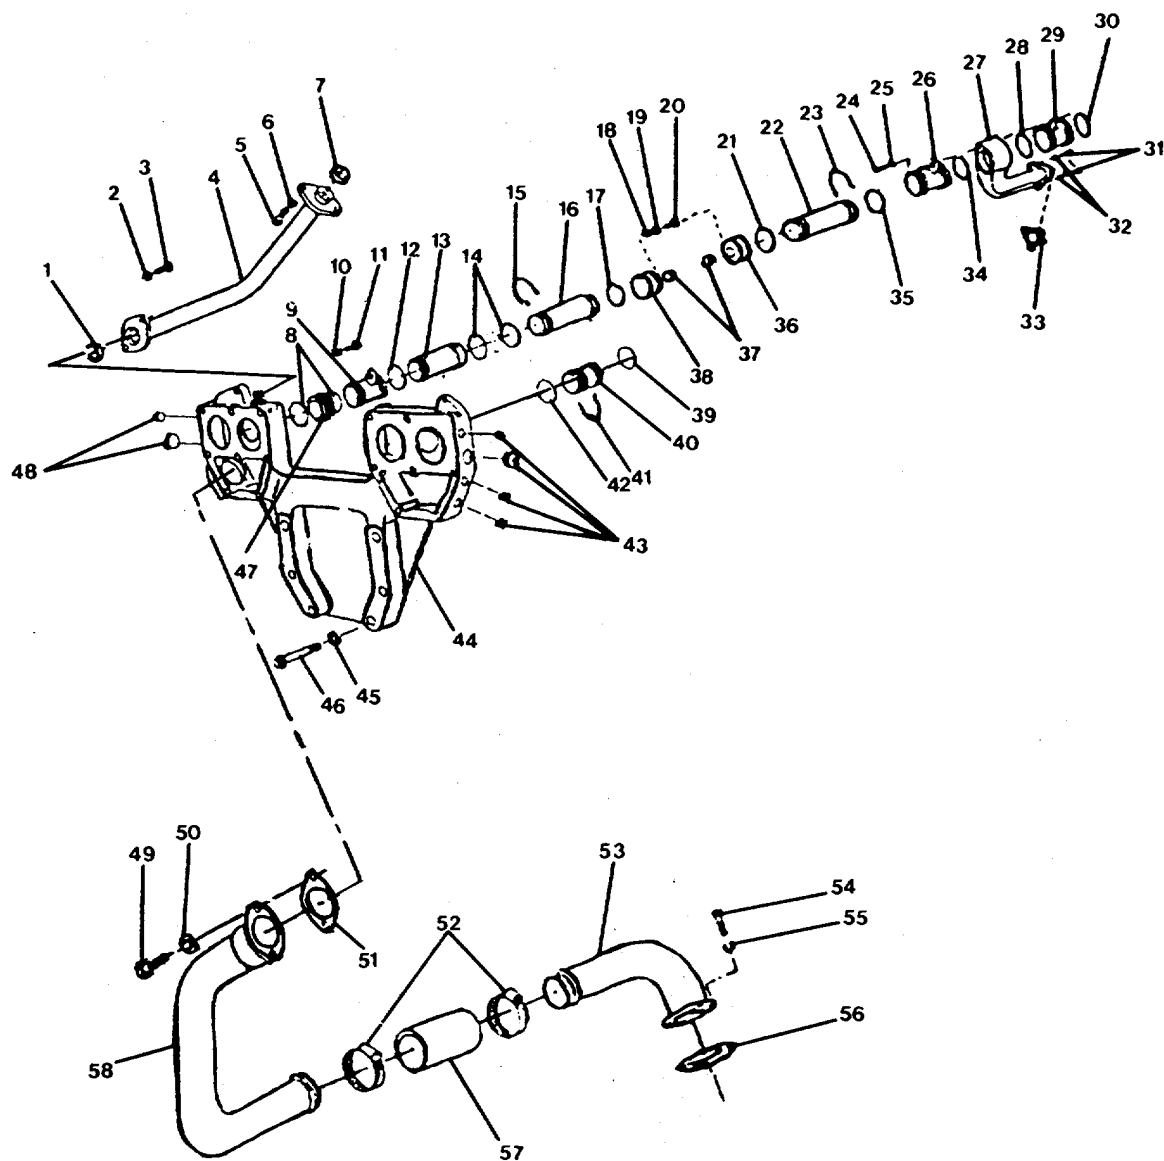
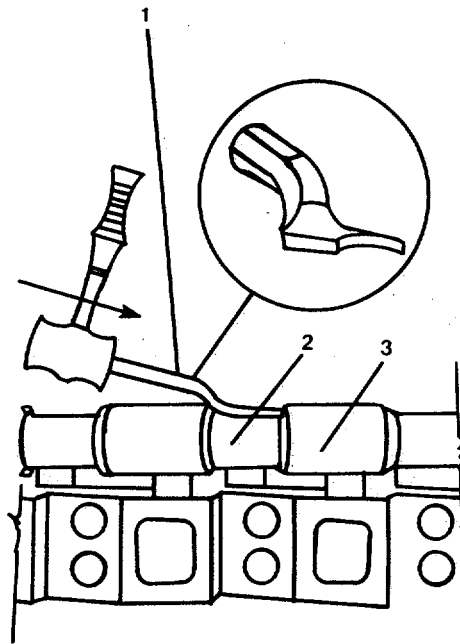

FIGURE 2-12. Thermostat Housing Support/Water Transfer Tube Group.
FIGURE 2-13. Water Transfer Tube Positioning for Removal
- (1) Remove two hexagon head capscrews (49, FIG. 2-12) and lockwashers (50) retaining metal bypass tube assembly (58) to the housing (44).
- (2) Remove gasket (51) and discard.
- (3) Remove two hose clamps (52) retaining metal bypass tube assembly (58) to nonmetallic hose (57). Remove bypass metal tube assembly (58) and non-metallic hose (57).
- (4) Remove two hexagon head capscrews (54) and lockwashers (55) retaining the opposite end of metal bypass tube assembly (53).
- (5) Remove metal bypass tube (53) and gasket (56). Discard gasket.
- (1) Remove two hexagon head capscrews (5, FIG. 2-12) and lockwashers (6) retaining water transfer tube (4) to the after cooler.
- (2) Remove preformed packing (7) and discard.
- (3) Remove two hexagon head capscrews (3) and lockwashers (2) retaining water transfer tube (4) to thermostat housing support (44).
- (4) Remove preformed packing (1) and discard.
- (5) Remove water transfer metal tube assembly (4).
- (1) Remove retaining ring (41, FIGURE 2-12) from side of thermostat housing (44) opposite water pump.
- (2) Remove section of transfer tube (40) retained by retaining ring (41).
- (3) Remove two preformed packings (39 and 42).
- (4) Remove machine bolts (11) and lockwashers (10) from opposite side of the thermostat housing (44).
- (a) Use a water tube driver (1, FIGURE 2-13) and a hammer to push the tubes (2) until the tubes clear the rocker lever housing (3).
- (5) Remove nearest portion of inlet water transfer metal tube assembly (47, FIGURE 2-12), and two preformed packings (8).
- (6) Remove the next two segments of the inlet water transfer metal tube assembly (9 and 13), and three preformed packings (12 and 14).
- (7) Remove retainer ring (15) retaining the next segment of tube (16).
- (8) Remove the next segment of inlet water metal transfer tube assembly (16) and preformed packing (17).
- (9) Remove hexagon head capscrews (20), lockwashers (19) and ring spacers (18) from water transfer expansion plugs (36 and 38). Remove two pipe plugs(37).
- (10) Remove retaining ring (23) from the next segment of inlet transfer metal tube assembly (22).
- (11) Remove next segment of inlet transfer metal tube assembly (22) and two preformed packings (21 and 35).
- (12) Remove machine bolts (24) and lockwashers (25) retaining metal tube assembly (26).
- (13) Remove metal tube assembly (26) and preformed packing (34) from water connection (27).
- (14) Remove hexagon head capscrews (31) and lockwashers (32). Remove water connection (27) and gasket (33). Discard gasket.
- (15) Remove preformed packing (28,30) from water transfer assembly (29).
- (1) Remove pipe plugs (43 and 48, FIGURE 2-12) from both sides of thermostat housing support (44).
- (2) Remove six hexagon head capscrews (46) and lockwashers (45) retaining support (44) to the engine block.
- (3) Remove thermostat housing support (44).
- (1) Position thermostat housing support (44, FIGURE 2-12) to the engine block.